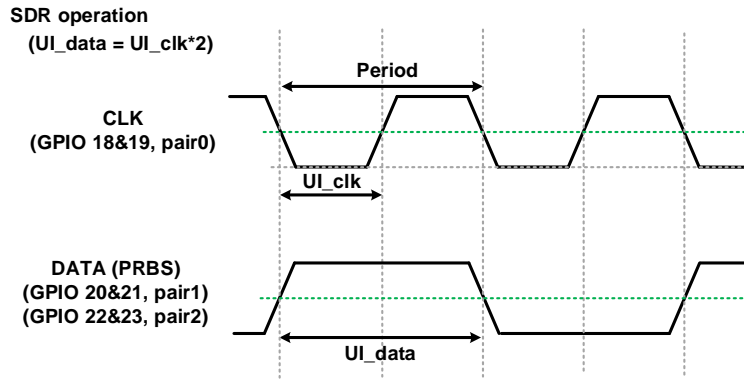

Figure 4. SDR Data and Clock Rates
4. SDR operation (see Figure 4):